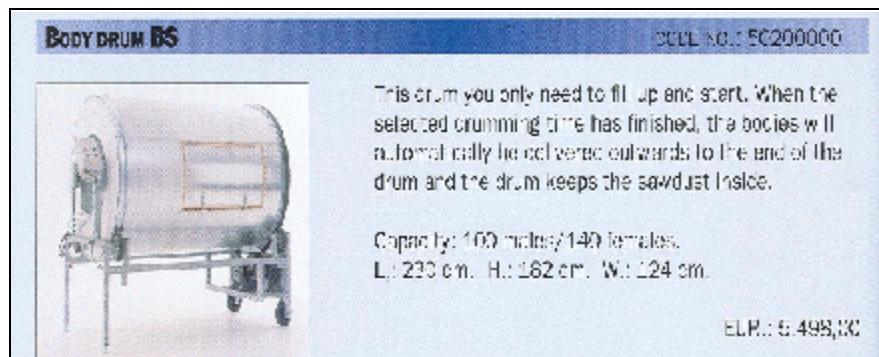

Figure 3: Body Drum
- **Body Drum:** The Body Drum prepares the mink for the skinning process. The bodies are tumbled in the drum with sawdust to remove dirt/grease from the pelts. See Figure 3 for an example of a Body Drum.